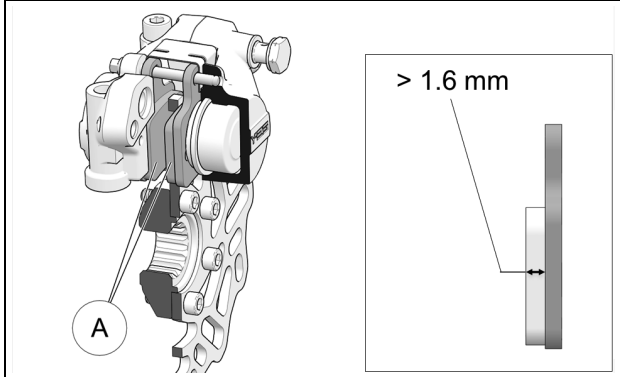

Figure 33
Inspect brake pads (A) for wear. If pad thickness is under 1.6 mm (1/16 in.), replace the parts. See Figure 33.